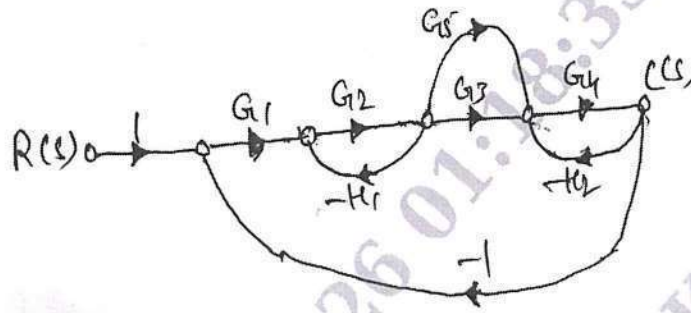

Fig.Q.3(b)
<p style="text-align: center;">Fig.Q.3(a)</p>
- b. Find the overall transfer function by using Mason's gain formula for the signal flow graph shown in Fig.Q.3(b).